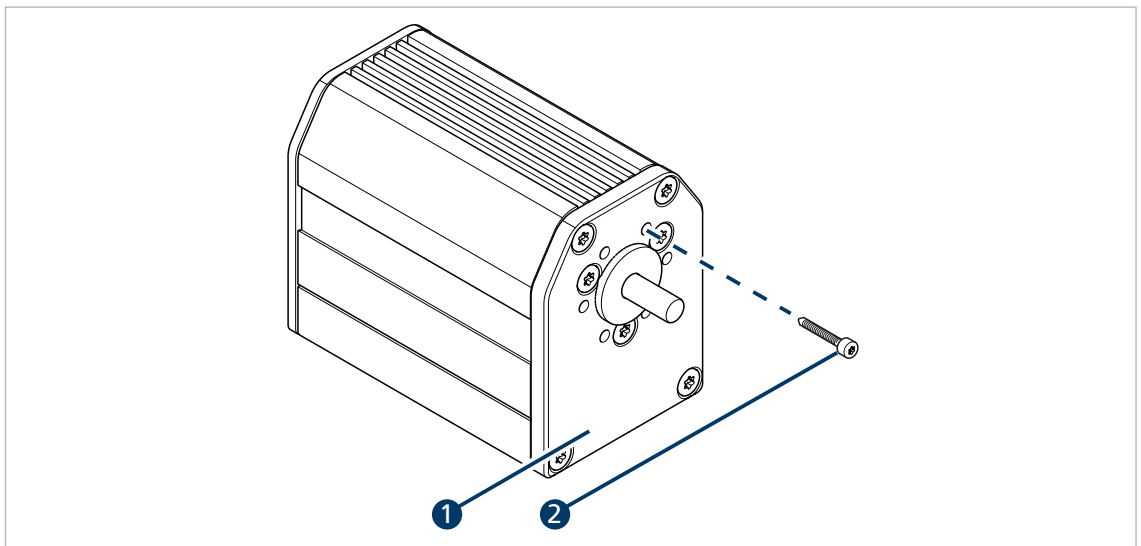

Fig. 8: Mounting on the front flange
- ▶ Secure the Motion Control System (1) with screws (2) using the tapped bore holes on the cover plate as shown in Fig. 8.